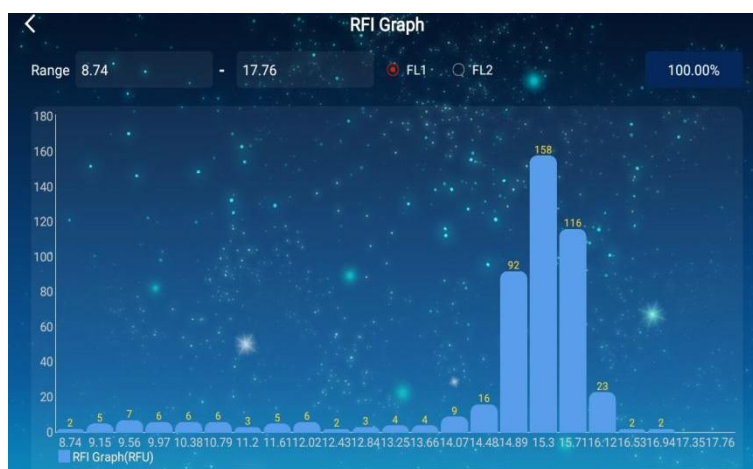

Fig. 2.22 RFI Graph
- The **RFI Graph**: The user can obtain the Relative fluorescence Intensity (RFI) distribution histogram(s) of the current sample (**Fig. 2.22**) with a simple click on the RFI Graph icon in the Test results menu (mid right section). The graphic shows the relative fluorescence Intensity Units (RFU) on the x axis and corresponding cell numbers (counts) of these RFUs on the y axis. The user can switch between the different fluorescence channel, just clicking on FL1 or FL2. For each histogram the user has the option to define a section of the whole graph. He only has to modify the upper and lower values in the entry fields above the graph. This allows the users to proportionally view on those cells within the pre-defined RFU units.